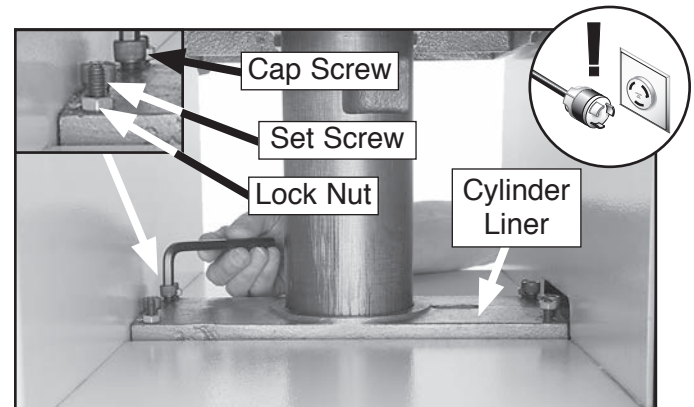

Figure 78. Adjusting table parallelism.
3. Loosen (4) cap screws on cylinder liner, as shown in **Figure 78**.